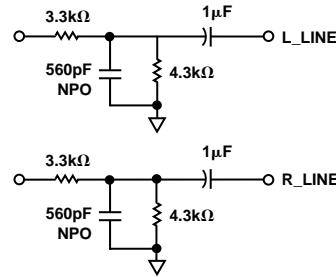
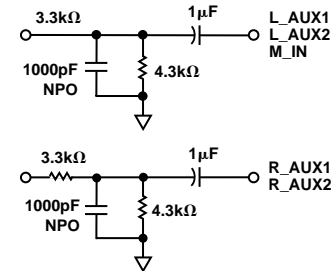

Figure 27. 2 V rms Line-Level Input Circuit for LINE Inputs
Figure 28. 2 V rms Line-Level Input Circuit for M\_IN and AUX Inputs
The AD1845 Stereo Codec has been designed to require a minimum of external circuitry. The recommended circuits are shown in Figures 27 through 35.
A circuit for 2 V rms mono, line-level inputs and auxiliaries is shown in Figure 27 and Figure 28. Note that this is a divide-by-two resistive dividers considering the codec input impedance. The input resistor and 560 pF (1000 pF) capacitor provides the single-pole of antialias filtering required for the ADCs. If line-level inputs are already at the 1 V rms levels expected by the AD1845, the resistors in parallel with the 560 pF (1000 pF) capacitors can be omitted. If the application does not route the AUX2 inputs to the ADCs, then no antialias filtering is required (only the 1 μF ac coupling capacitor).
2. The AD1845 requires the input antialiasing filters for the ADCs (refer to Figures 27 and 28). The CS4231 can use the same filters with no degradation in performance. For compatibility it is suggested that the filters be added.